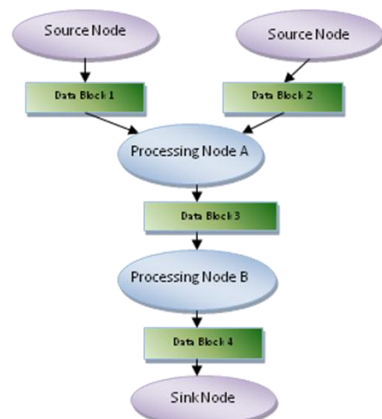

Figure 2 BAM uses direct acyclic graph to abstract the data flow.
- Figure 2 BAM uses direct acyclic graph to abstract the data flow.